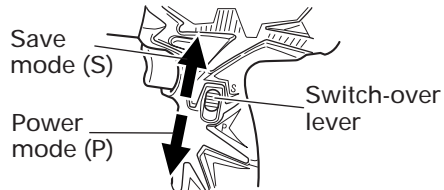

Fig. 20
- (2) As shown in Fig. 20, when the rotation switch-over lever is slid to the lower side, the power mode (P) is set. And when slid to the upper side, the save mode (S) is set.